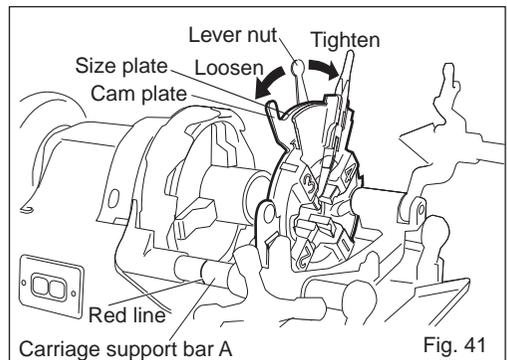

Fig. 41
- If you start cutting a thread with the red line on the Carriage support bar A hidden from view, the Carriage could knock into the Base, which could lead to damage or possible injury. (Fig. 41)